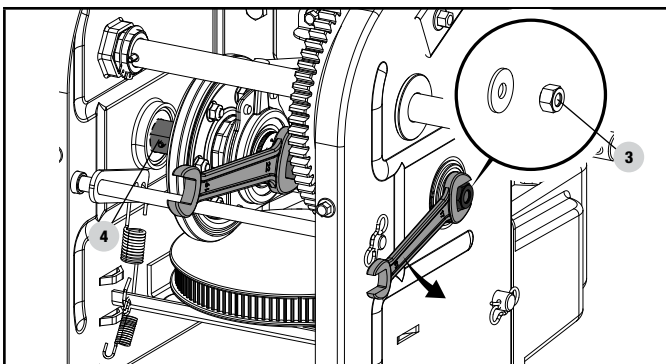

Figure 49
4. Carefully remove the M10 hex nut (3) which secures the hex shaft (4) to the snowblower frame and lightly tap the shaft's end to dislodge the ball bearing from the right side of the frame (Fig. 49).